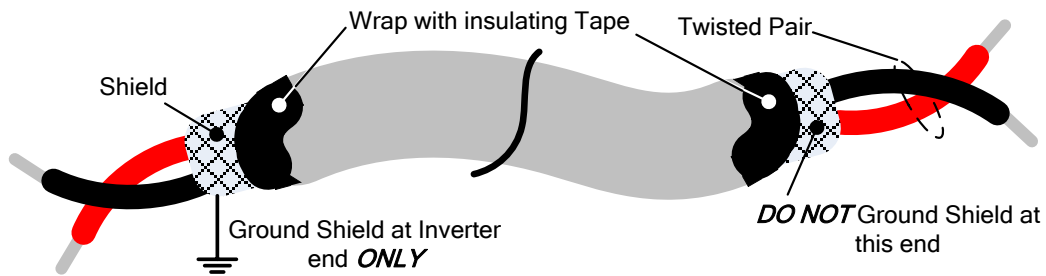

Fig. 3.17.1 Shielded Twisted-Pair
- (1) Separate the wiring for control circuit terminals from main circuit wiring for terminals (R/L1, S/L2, T/L3, U/T1, V/T2, W/T3).
- (2) Separate the wiring for control circuit terminals R1A-R1B-R1C (or R2A, R2C) (Relay outputs) from wiring for terminals ① - ⑥, A01, A02, GND, DO1, DO2, DOG, +10V, (-1-V), AI1, AI2 and GND wiring.
- (3) Use shielded twisted-pair cables (#24 - #14 AWG / 0.5 - 2 mm²) shown in Fig. 3.17.1 for control circuits to minimize noise problems. The maximum wiring distance should not exceed 50m (165 ft).